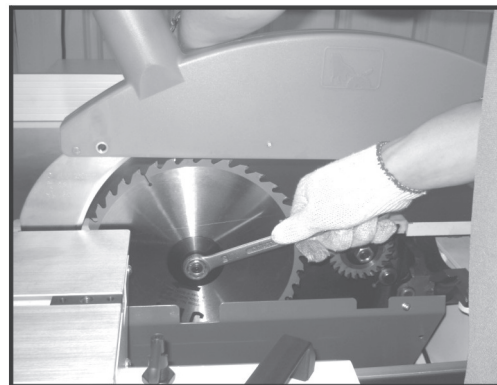

Fig.33
6. Install the new blade, re-install the arbor flange and the arbor nut and tighten them against the blade. (Fig. 33)